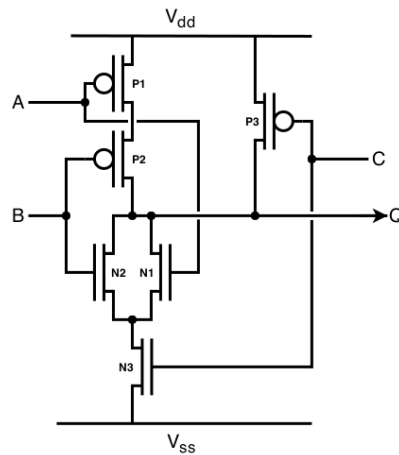

Figure 3: Transistor circuit
2. a) Figure 3 shows a transistor-level schematic of a standard cell. Derive a truth table for this circuit and write a Verilog `assign` statement which performs an equivalent function. (3 marks)
- c) Assuming the same *carrier mobility* in the PMOS and NMOS transistors, should any of the transistors be differently sized to balance the ‘drive strength’ of the circuit in fig. 3? Justify your answer. (2 marks)